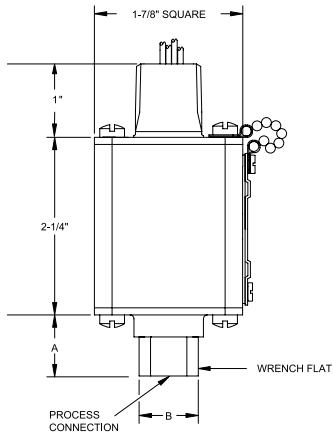

figure 1
MOUNT USING PRESSURE CONNECTION: ALWAYS USE A WRENCH ON PRESSURE CONNECTION WRENCH FLAT. (SEE FIGURE 1).
2. Loosen screws on front, removing cover. (See figure 1)